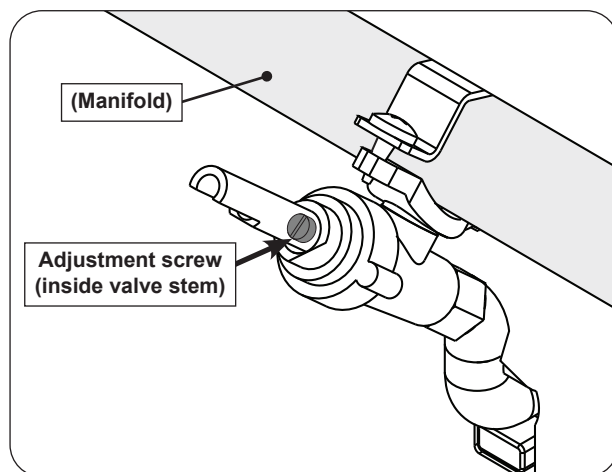

Fig. 49-1 Valve adjustment screw location
4. Locate the FLATHEAD adjustment screw found inside the valve stem (see Fig. 49-1).